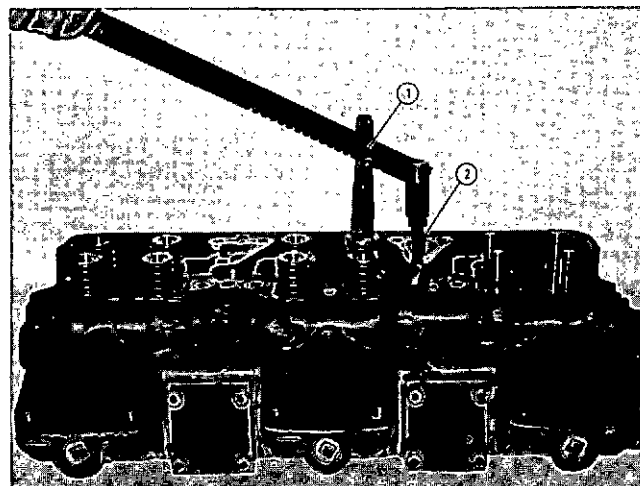

Fig. 2-1-1, V40201. Compressing valve springs with ST-448
4. Remove valves and springs. Use ST-448 Valve Spring Compressor (1, Fig. 2-1-1) to compress valve springs. ST-448 may be used at bench or on installed engine.
5. Screw stud (2) from ST-448 in rocker lever housing mounting capscrew hole.
6. Compress one valve spring at a time. Fig. 2-1-1. Tap valve head lightly to loosen; then remove half collets. A small magnet may be used as an aid in removing half collets.